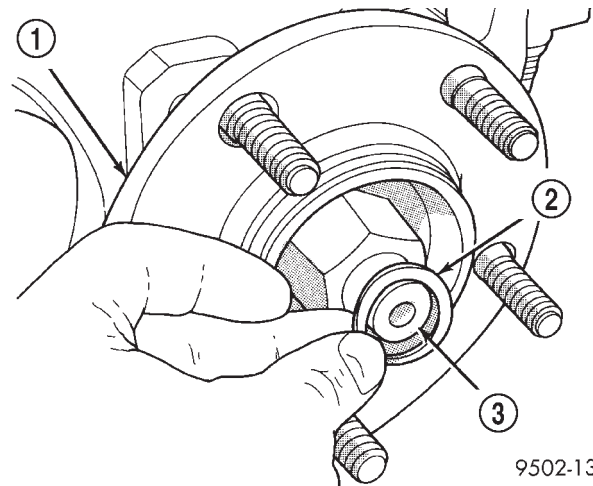

Fig. 3 Wave Washer
(3) Remove the wheel and tire assembly from the vehicle.
(4) Remove the wave washer (Fig. 3) from the end of the stub axle